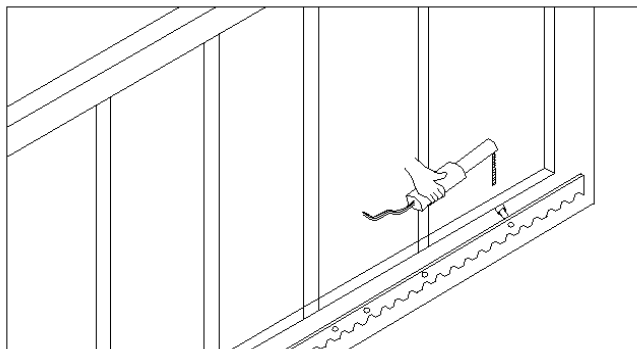

Fig.4
- Install the limit block as shown in Fig.4 and Fig.5. The magnetic